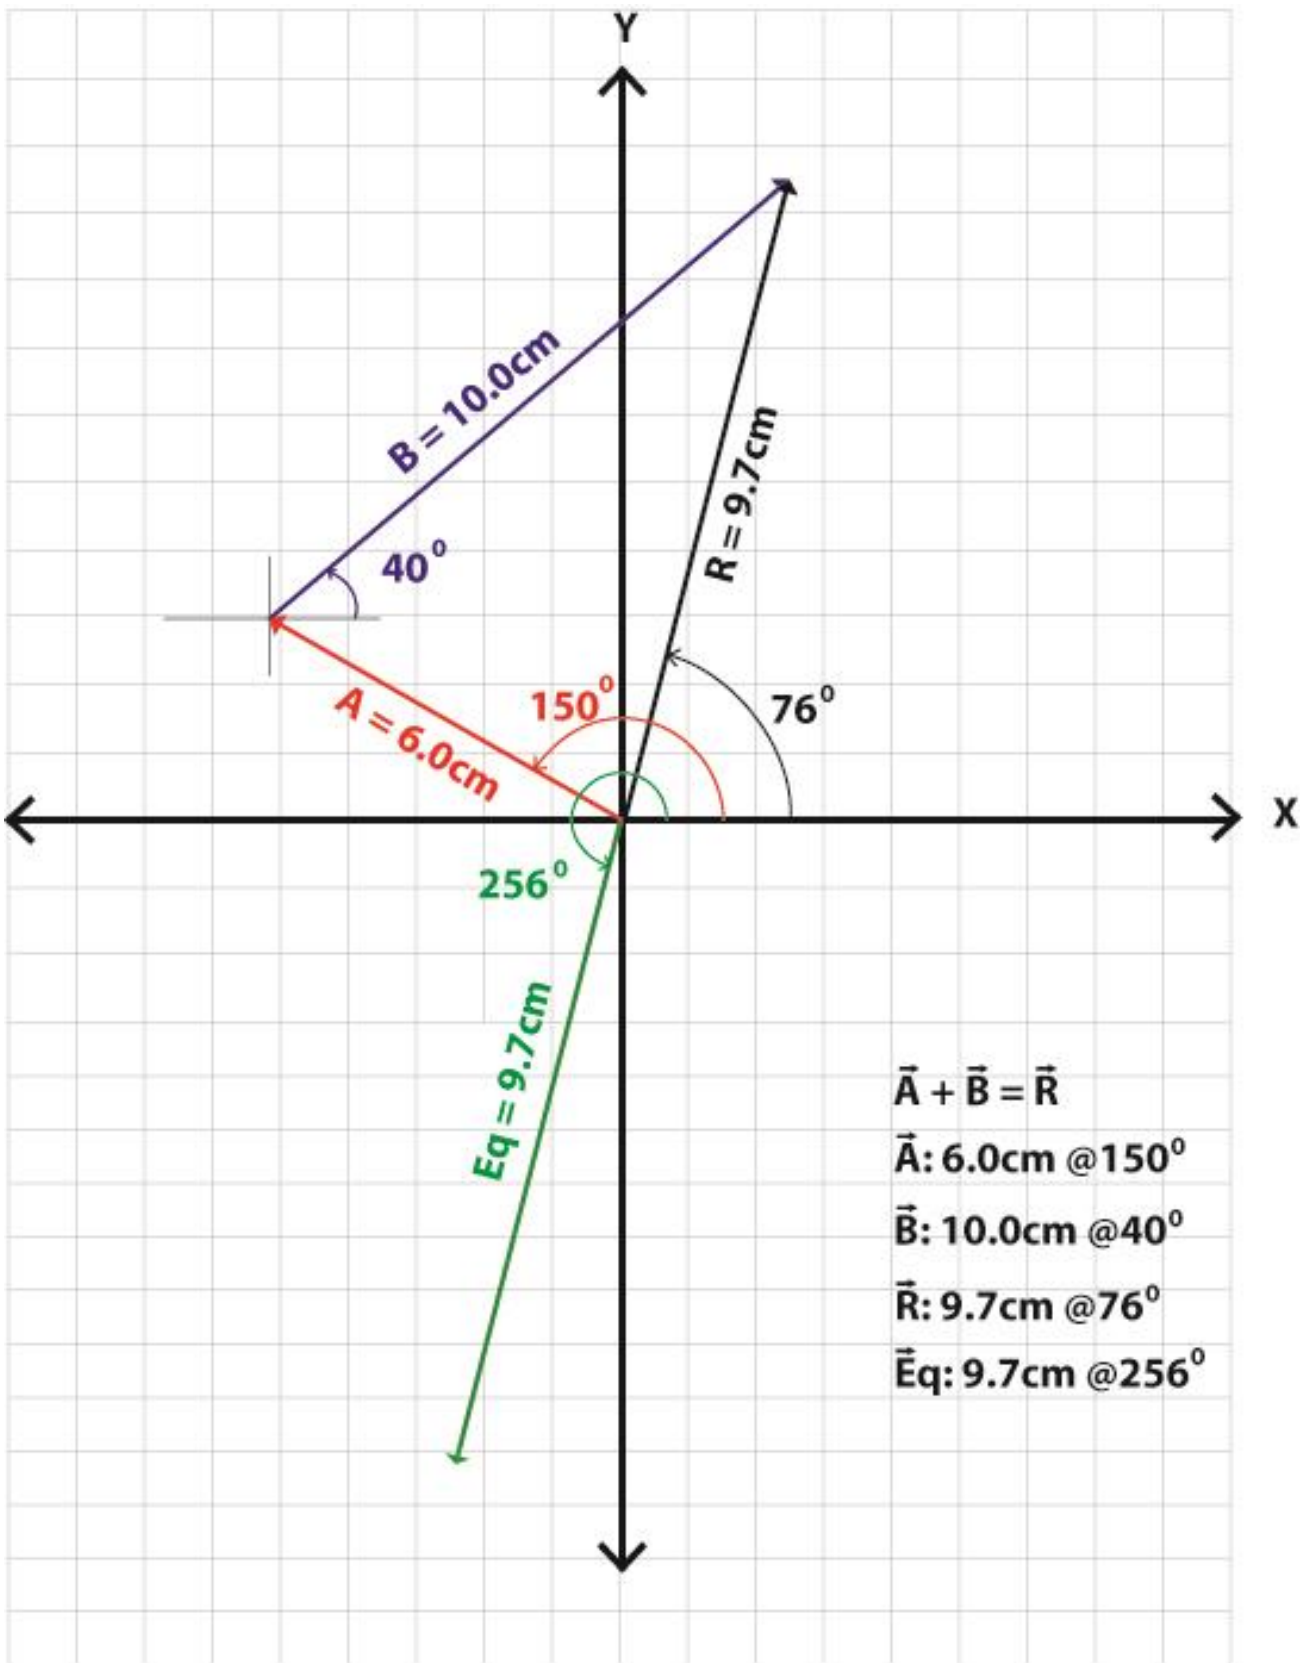

Figure 2. Example of “Head-to-Tail” method of adding vectors.
1. **Graphically** add the following two vectors using the head-to-tail method. Please check the example given in **Figure 2** and reference any of the physics textbooks available in the Lab for more information on the head-to-tail method of adding vectors, if necessary. It is recommended that the origin for the first coordinate axis be positioned in the middle of the page in order for everything to fit. **Draw the vectors exactly to scale.**